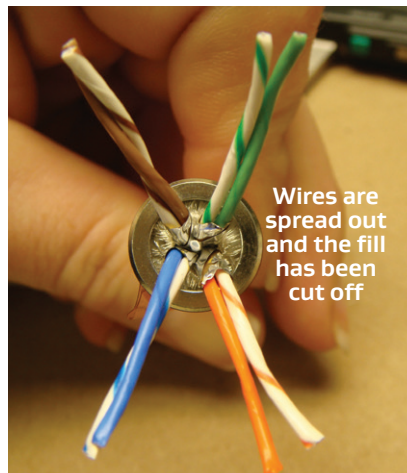

Figure 24: Spreading the wires
12. Spread out the wires around the cable and cut off the white filler as short as possible (Figure 24).